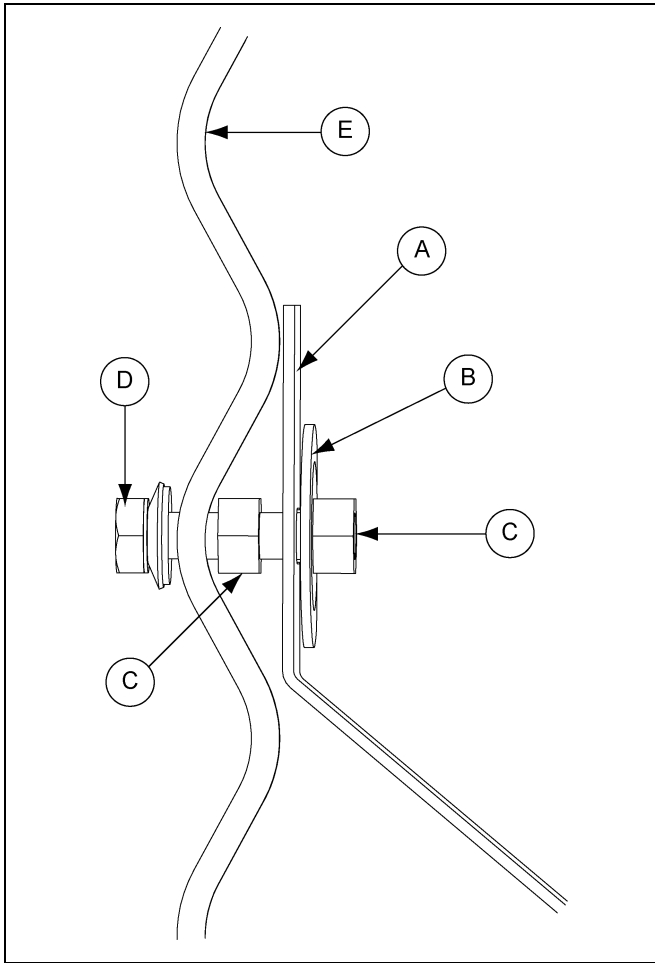

Figure 11A Flashing Hardware
1. Attach flashing (A) to the bin wall using the pre-punched holes at 9-1/3" above the horizontal seam.
2. Attach left side of the first piece of flashing (A) to the sidewall using the connection as shown in Figure 11A. Working clockwise, overlap the flashing (A) at the right hand hole of each piece of flashing. **NOTE:** If bolts are installed at flashing seam location they will need to be removed.